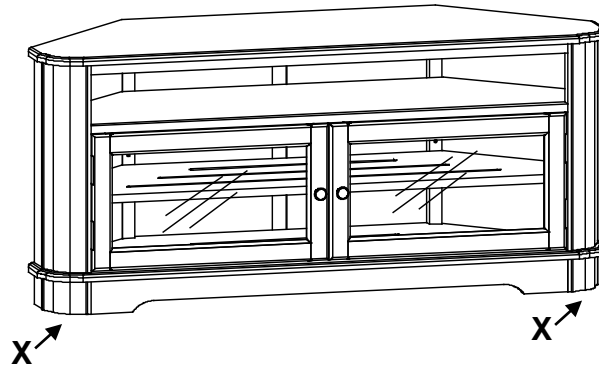

Fig. 1
1. Move the unit to its final destination. To level the unit, turn the Small Adjustable Glides (X) found at the bottom left and right front corners. See Figure 1.